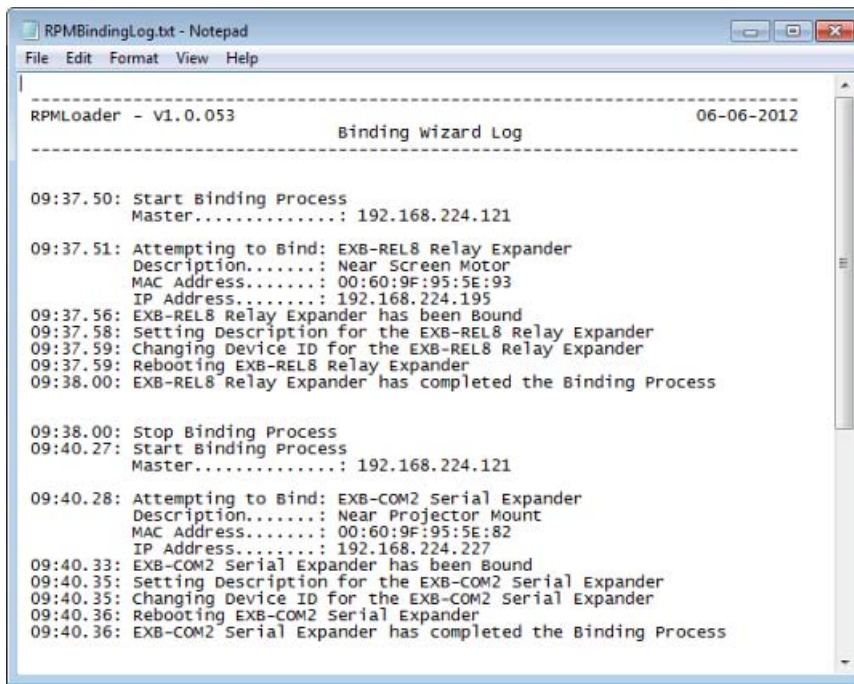

FIG. 44 Example Binding Wizard Log file (RPMBindingLog.TXT)
8. When the Binding Process is complete, the Binding Wizard Log file (*RPMBindingLog.TXT*) is opened, providing a summary of the binding process (FIG. 44):